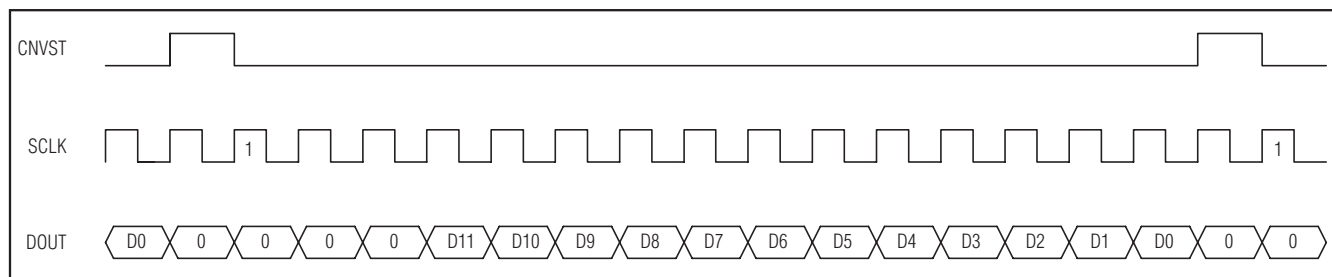
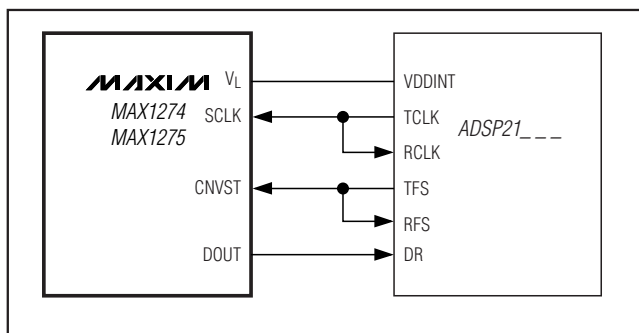

Figure 17. DSP Interface—Continuous Conversion
Figure 19. Interfacing to the ADSP21_____
The MAX1274/MAX1275 can also be connected to the TMS320C54_ by using the data transmit (DX) pin to drive CNVST and the CLKX generated internally to drive SCLK. A pullup resistor is required on the CNVST signal to keep it high when DX goes high impedance and 0001hex should be written to the DXR continuously for continuous conversions. The power-down modes may be entered by writing 00FFhex to the DXR (see Figures 17 and 18).
The MAX1274/MAX1275 can be directly connected to the ADSP21_ _ _ family of DSPs from Analog Devices, Inc. Figure 19 shows the direct connection of the MAX1274/MAX1275 to the ADSP21_ _ _. There are two modes of operation that can be programmed to interface with the MAX1274/MAX1275. For continuous conversions, idle CNVST low and pulse it high for one clock cycle during the LSB of the previous transmitted word. The ADSP21_ _ _ STCTL and SRCTL registers should be configured for early framing (LAFR = 0) and for an active-high frame (LTFS = 0, LRFS = 0) signal. In this mode, the data-independent frame-sync bit (DITFS = 1) can be selected to eliminate the need for writing to the transmit-data register more than once. For single conversions, idle CNVST high and pulse it low for the entire conversion. The ADSP21_ _ _ STCTL and SRCTL registers should be configured for late framing (LAFR = 1) and for an active-low frame (LTFS = 1, LRFS = 1) signal. This is also the best way to enter the power-down modes by setting the word length to 8 bits (SLEN = 1001). Connect the V_L pin to the ADSP21_ _ _ supply voltage when the MAX1274/MAX1275 are operating with a supply voltage higher than the DSP supply voltage (see Figures 17 and 18).